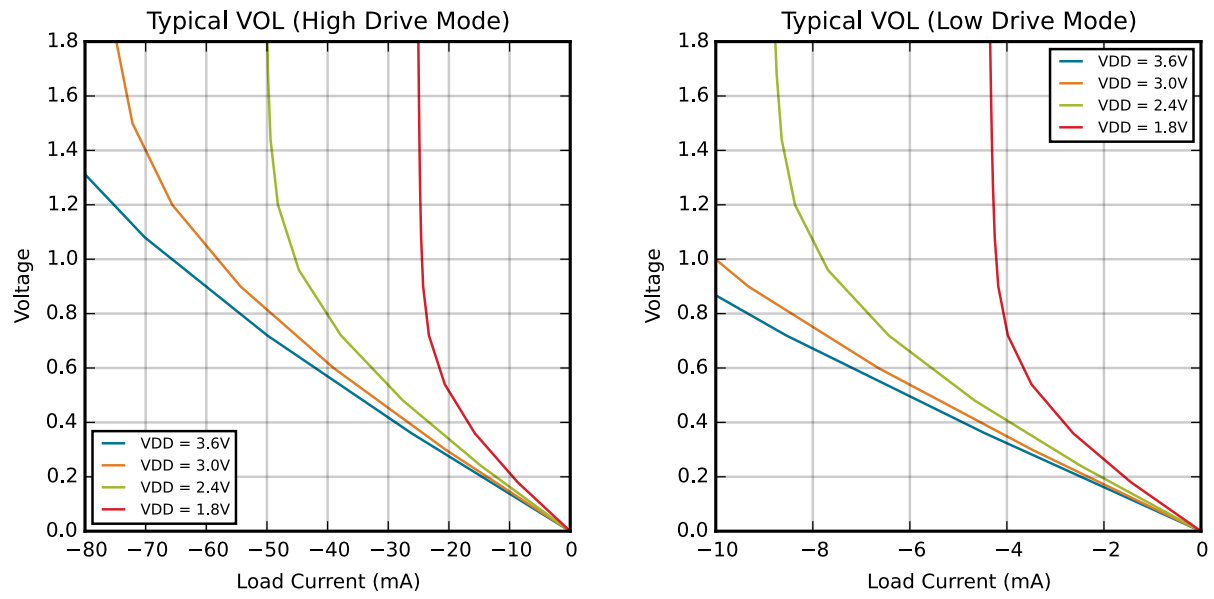

Figure 4.4. Typical  $V_{OL}$  Curves
1. See Figure 4.3 Typical VOH Curves on page 29 and Figure 4.4 Typical VOL Curves on page 30 for more information.